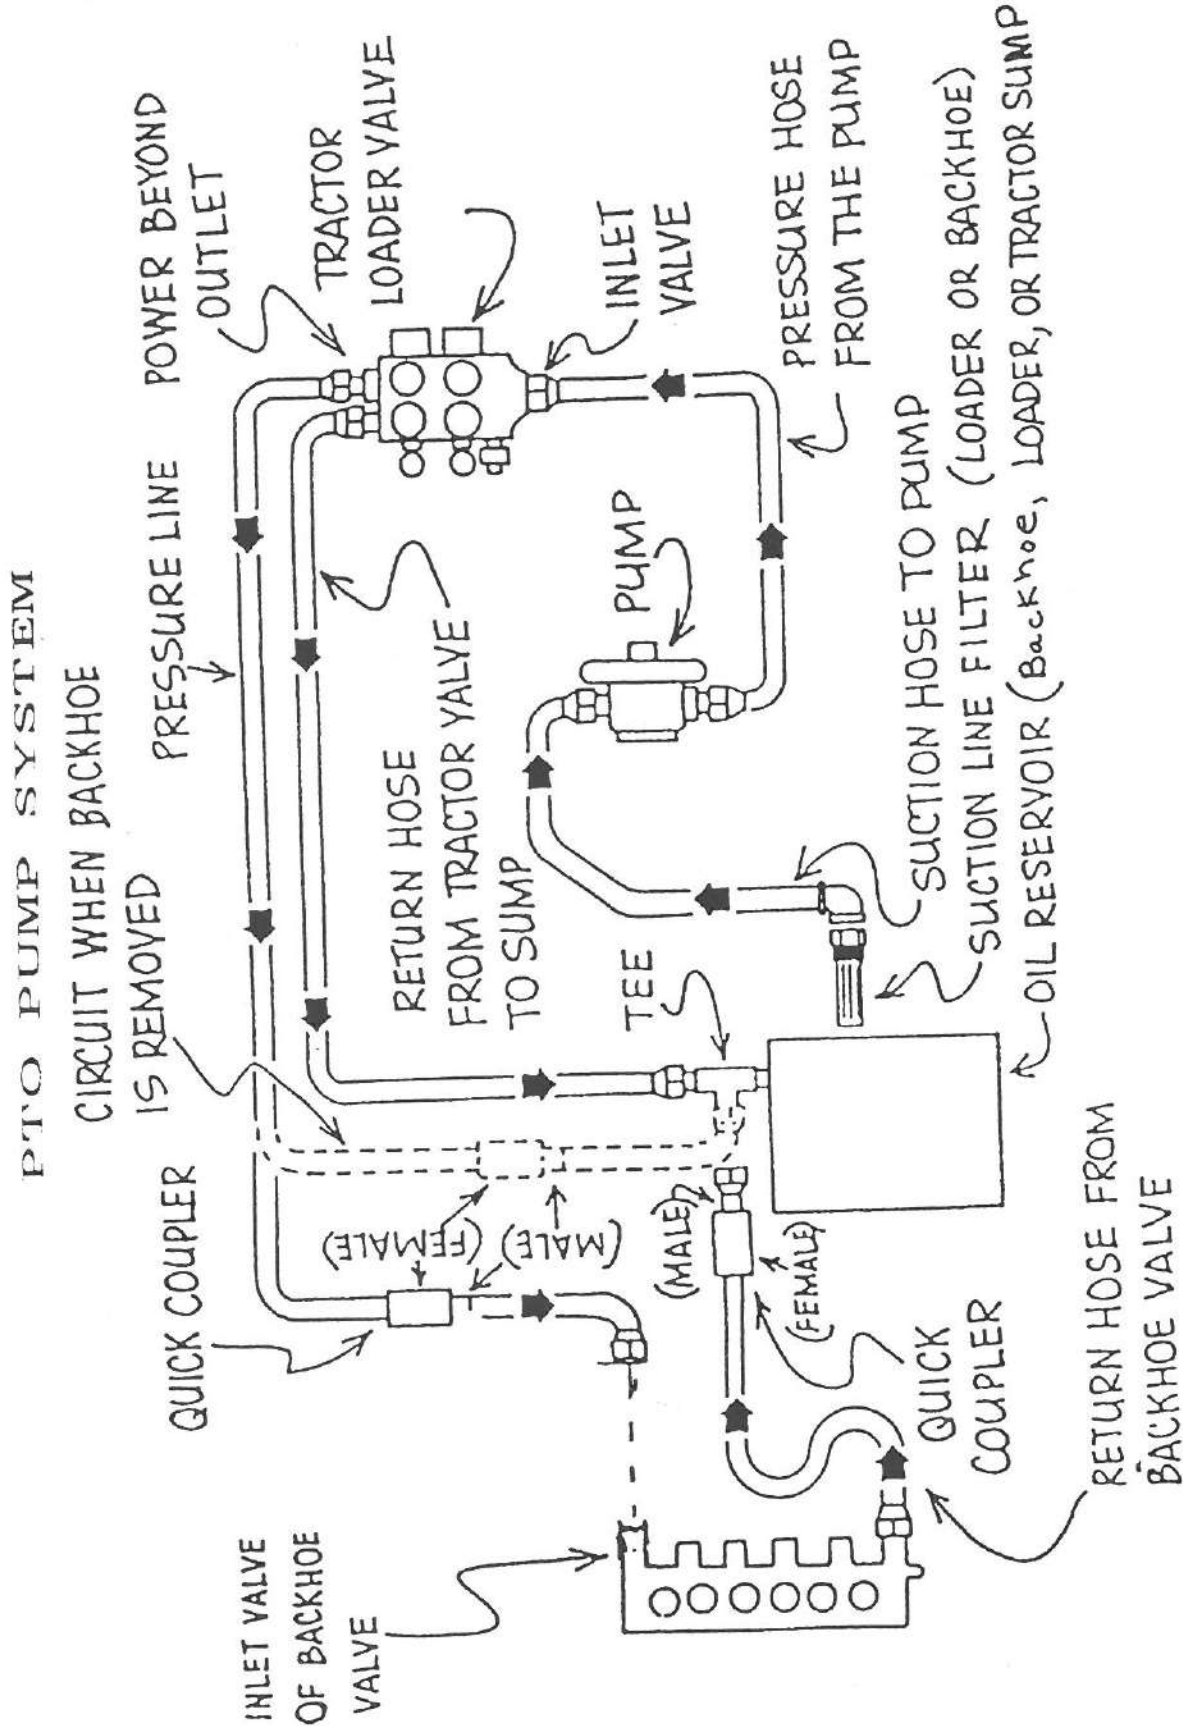

Figure 1
- B. If you wish to run both a loader and a backhoe off of the same hydraulic system, make your connection as illustrated in Figure 2—Power Beyond Hosing. Also, refer to the section of this manual entitled **Power Beyond Hydraulic Systems** Figure 1. Since there are so many variations for this type of setup, we are showing only a generalized hosing scheme. If you have any questions concerning the specifics for your situation, please contact the factory before attempting operation.
- F. Refer to Figure 1 for hosing
Install the independent hydraulic system onto the backhoe according to the following procedures. Refer to Figure 1 and page 7 of this manual for the identification of the parts. During the assembly, use pipe compound on all pipefittings. None is required on the O-Ring fittings.